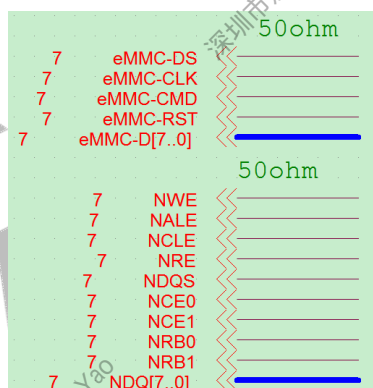

Figure 2-19 NAND/eMMC Signal Line Impedance Label
- Add the impedance requirement descriptions of NAND/eMMC signal traces in the schematic diagram, as shown in Figure 2-19.